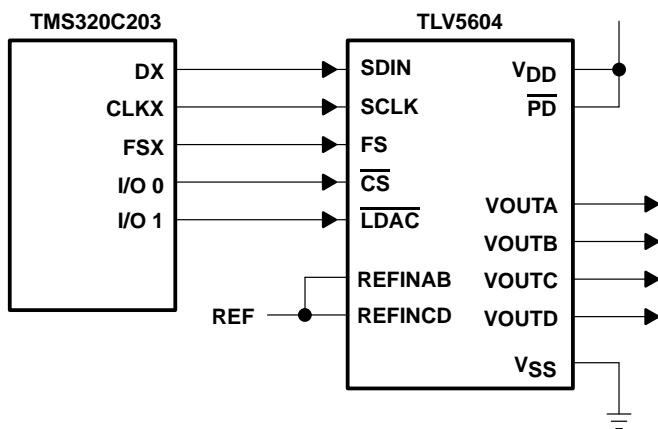

Figure 17. TLV5604 Interfaced with TMS320C203
Figure 17 shows an example of how to connect the TLV5604 to a TMS320C203 DSP. The serial port is configured in burst mode, with FSX generated by the TMS320C203 to provide the Frame Sync (FS) input to the TLV5604. Data is transmitted on the DX line, with the serial clock input on the CLKX line. The general-purpose input/output port bits I/O 0 and I/O 1 are used to generate the Chip Select (\overline{CS}) and DAC Latch Update (LDAC) inputs to the TLV5604. The active low Power Down (\overline{PD}) is pulled high all the time to ensure the DACs are enabled.